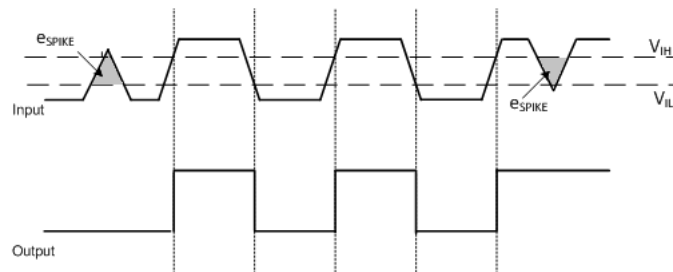

Figure 33 Input Glitch Rejection of Low-Power Receiver
The Low power receivers must have an ability to reject short-term glitches (any input signal smaller than e_{SPIKE}), which are the narrow pulses with voltage levels outside of the current logic state. However, the receiver state does not change as their widths are sufficiently shorter than the nominal T_{LPX} interval as shown in Figure 33.
- eSpike Logic 1 Input Voltage: Specifies the lower receiver detection threshold level for a logic 1. It is the voltage level just below the LP high level voltage and is represented by V_{IH} (refer to Figure 33).
- eSpike Logical 0 Input Voltage: Specifies the upper receiver detection threshold level for a logic 0. It is the voltage level just above the LP low level voltage and is represented by V_{IL} (refer to Figure 33).